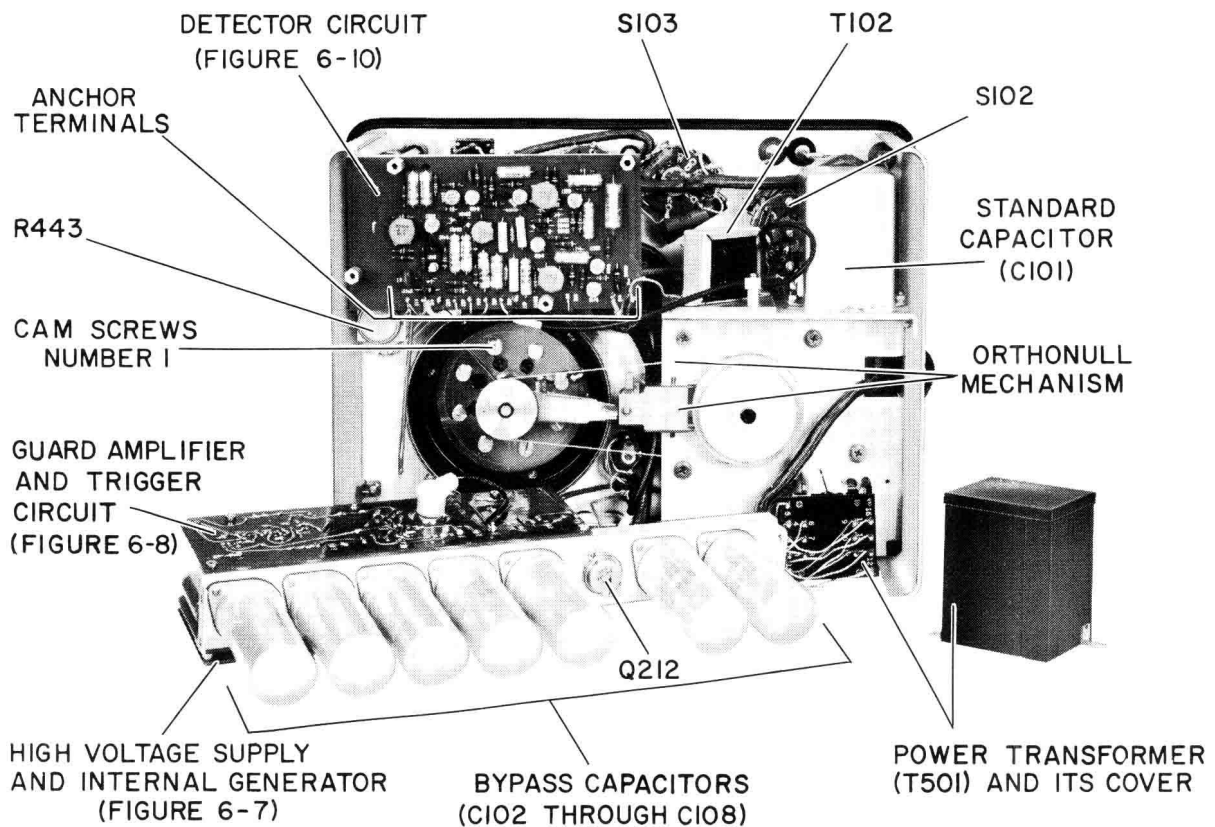

Figure 6-2. Rear interior view of the Type 1617 Capacitance Bridge.
(Figure 6-2)**
**Direct Resistance Measurement.** The C rheostat mechanical justifying mechanism consists of eight cam screws located on the rear of the C rheostat (see Figure 6-2), numbered from 1 to 8 in a clockwise direction from the slit on the cam plate. They can be adjusted by setting them for the proper resistances as indicated in Table 6-4. To reach the rheostat, remove two screws on each side of the inner plates, unsolder the connecting wire, and swing down the battery of capacitors.
C Dial Calibration Adjustments (Figure 6-2)